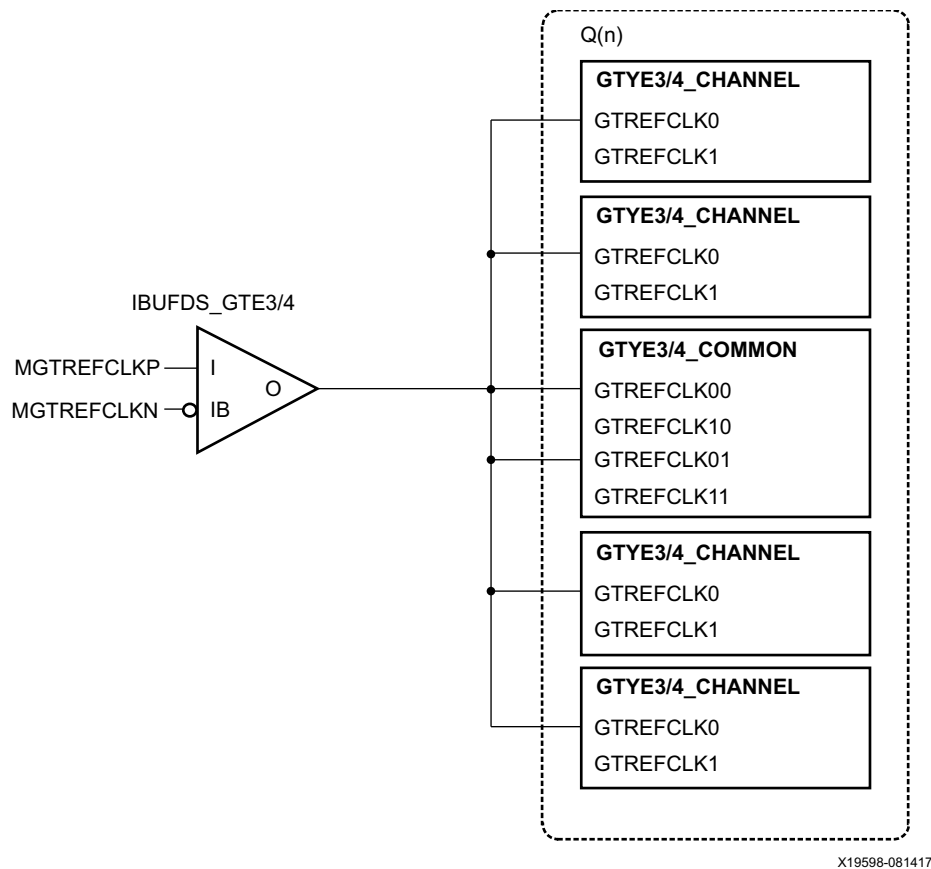

Figure 2-6: Single External Reference Clock with Multiple Transceivers in a Single Quad
Each Quad has two dedicated differential reference clock input pins (MGTREFCLK0[P/N] or MGTREFCLK1[P/N]) that can be connected to the external clock sources. In a single external reference clock use model, an IBUFDS\_GTE3/4 must be instantiated to use one of the dedicated differential reference clock sources. Figure 2-6 shows a single external reference clock connected to multiple transceivers within a single Quad. The user design connects the IBUFDS\_GTE3/4 output (O) to the GTREFCLK0 ports of GTYE3/4\_COMMON and GTYE3/4\_CHANNEL primitives for the GTY transceiver.
**Note:** The IBUFDS\_GTE3/4 diagram in Figure 2-6 is a simplification. The output port ODIV2 is left floating, and the input port CEB is set to logic 0.